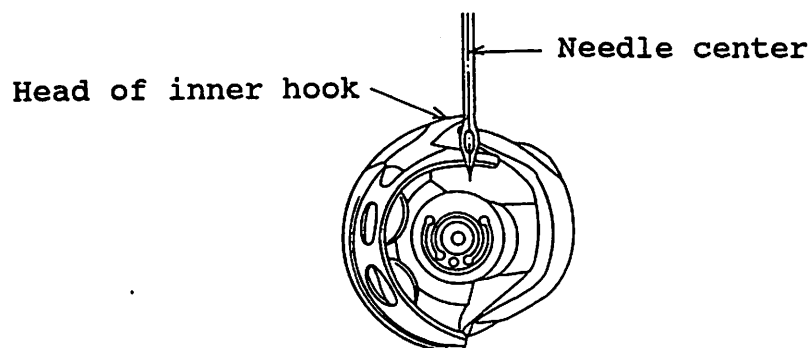

Fig. 9.4
- (1) Use an Allen wrench to loosen the driver set screw. (A hole to insert the wrench is provided under the cylinder head.)
- (2) Adjust the driver so that the head of the inner hook is aligned with the needle center when the pulley is turned and when timing mark (C) (or (D)) is pointing to the bottom end of the needle bar metal. (See Fig. 9.4)